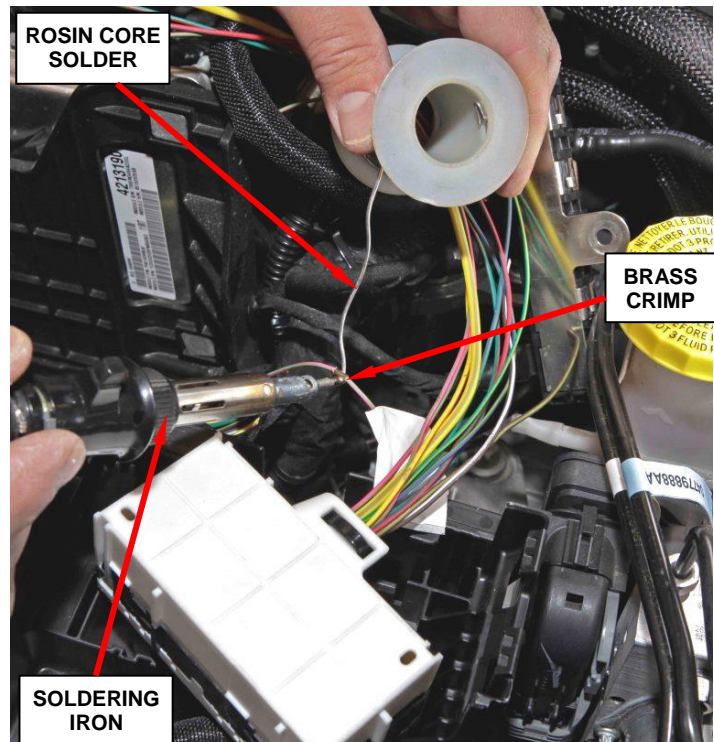

Figure 13 – Solder Crimp
- d. Solder the crimps with rosin core solder (Figure 13).